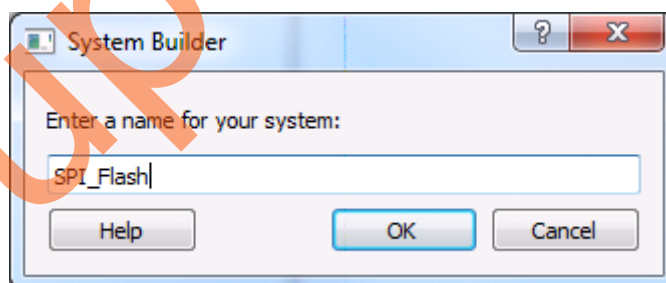

Figure 6 • System Builder Dialog Box
8. Enter **SPI_Flash** as the name of the system and click **OK**, as shown in Figure 6.